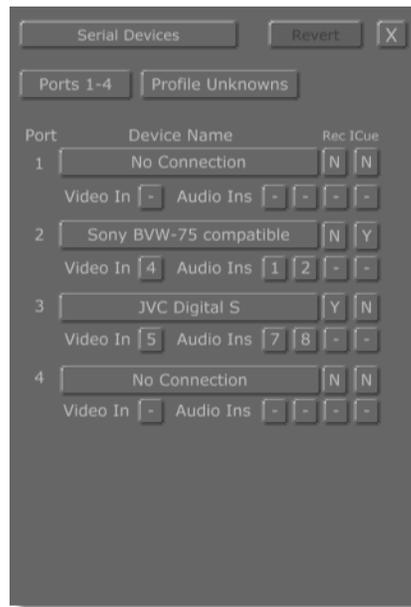

Figure 5.13: Serial Devices Panel With Ports 2 And 3 Configured
**NOTE:** If you are using an external audio mixer and doing linear editing, you need to set audio ins and outs in this panel, even though your audio channels are not hooked up to GlobeCaster's audio board. Doing this allows you to access the GlobeCaster Editor's audio tracks so you can insert the audio from the external mixer. Set the audio buttons to match Figure 5.13.